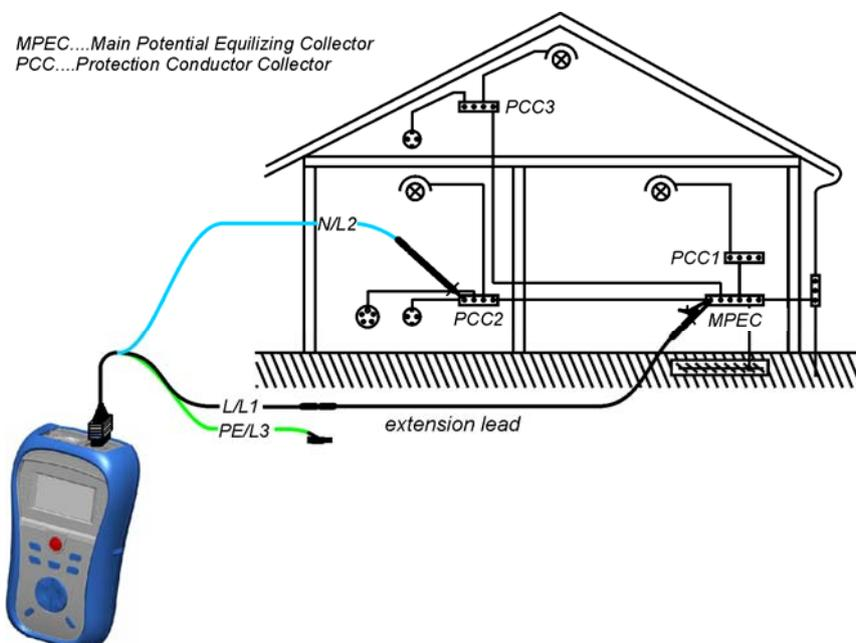

Figure 5.9: Connection of 3-wire test lead plus optional extension lead
- Connect** the test leads to the appropriate PE wiring (see figure 5.9).